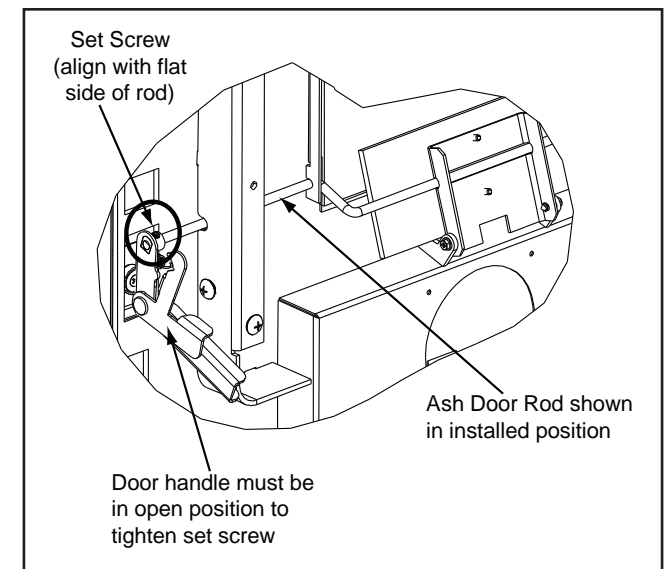

Figure 21.3
5. Re-install handle using a 3/32 Allen wrench to tighten the set screw in the door handle. The set screw needs to be snug. **Figure 21.3.**